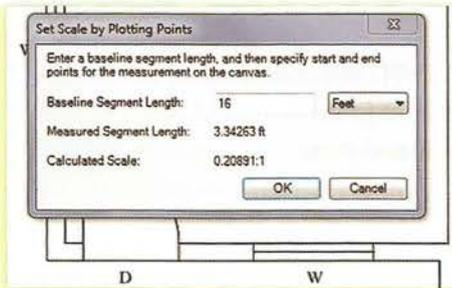

Fig 2: Set Scale
- Sheet Scale = Custom (Figure 2)